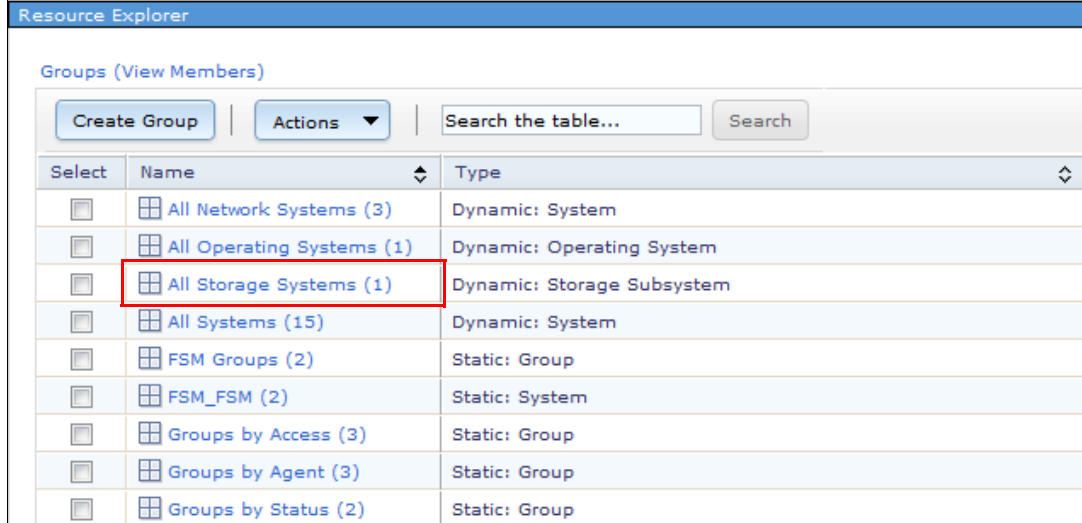

Figure 3-91 Navigate to all storage subsystems
3. Navigate to manage discovered storage, as shown in Figure 3-91.